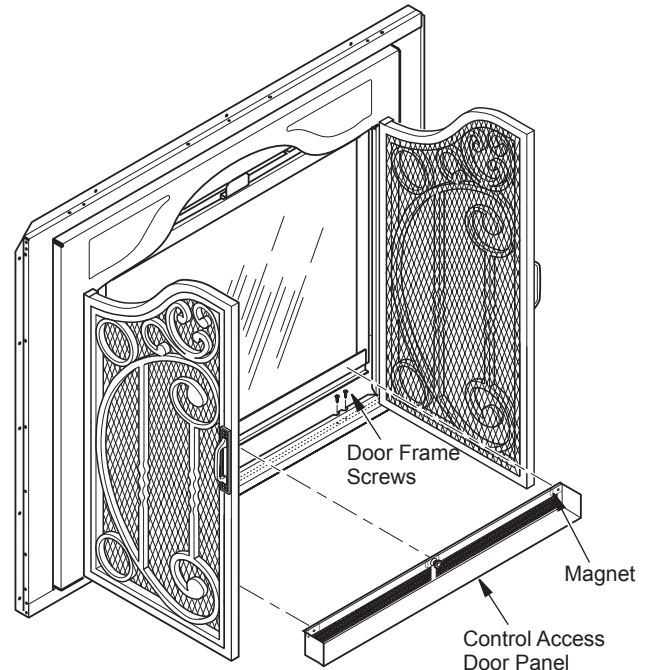

Figure 7 - Attaching Door Frame and Control Access Door Panel (Direct Vent Models)
- Open both decorative doors. Secure door frame to fireplace with 2 screws on each side of lower door frame as shown in Figure 7.
- Install control access door panel by attaching magnets located on back of access door assembly to lower horizontal glass frame as shown in Figure 7.